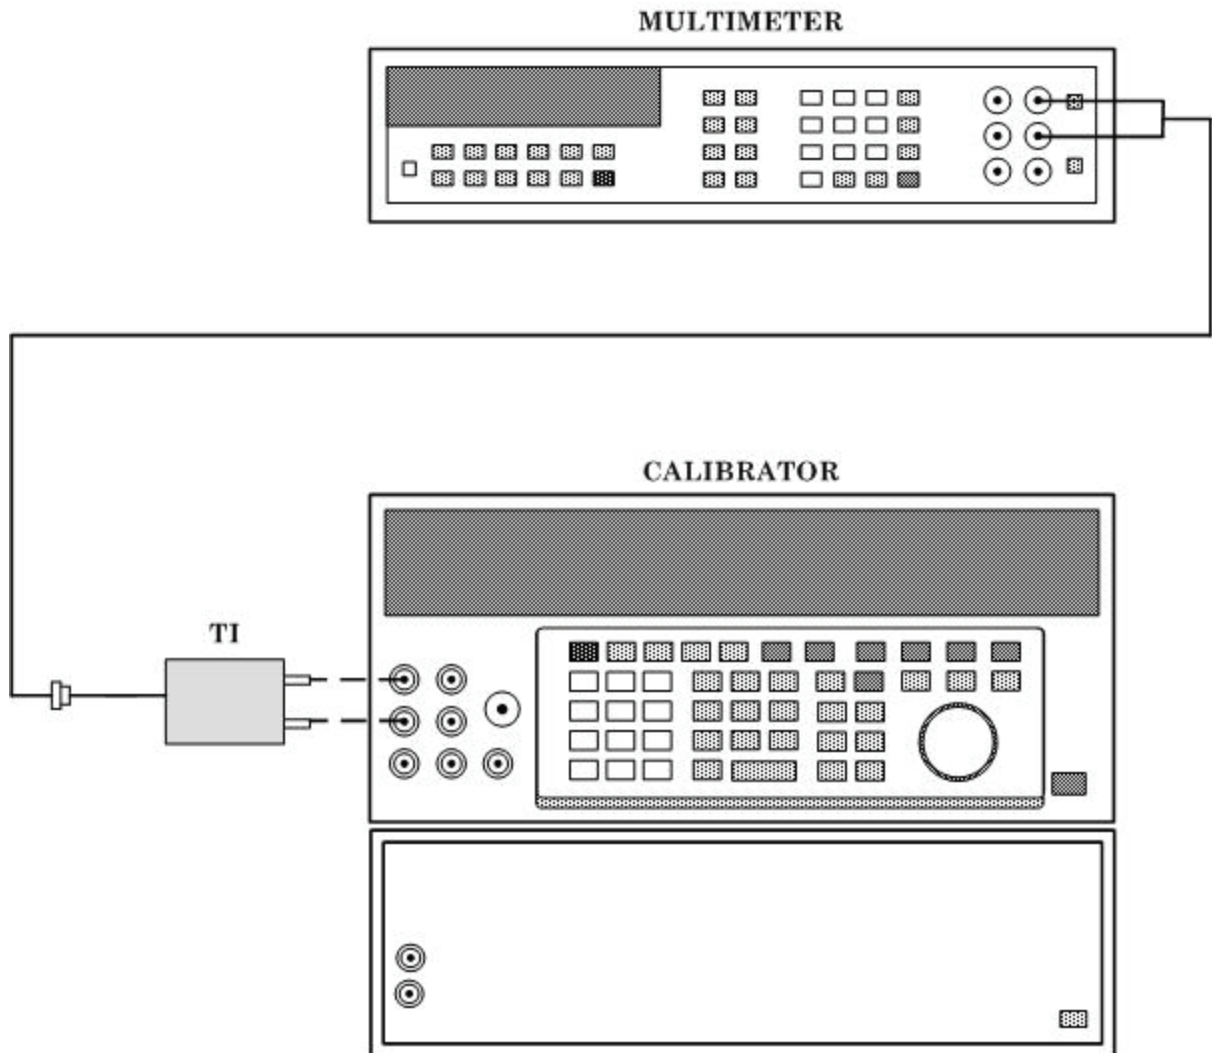

Figure 1. Ratio accuracy.
- b. Connect equipment as shown in figure 1.
- (1) Set calibrator for a 0 V dc output. Multimeter indication will be $<5 \mu\text{V}$. Record indication.
- (2) Disconnect TI from equipment setup and connect multimeter **Input HI** and **LO** terminals directly to calibrator **OUTPUT HI** and **LO** terminals.
- (3) Set multimeter to 100 V range.
- (4) Set calibrator for a 19 V dc output. Using output adjustment control, adjust calibrator for a 19.00000 V dc (± 5 digits) indication on multimeter.
- (5) Set calibrator to **STANDBY**.
- (6) Reconnect equipment as shown in figure 1.
- (7) Set calibrator to **OPERATE** and multimeter to 100 mV range.
- (8) Subtract value recorded in (1) above from multimeter indication. Resulting value will be between 18.9867 mV and 19.0133 mV dc.